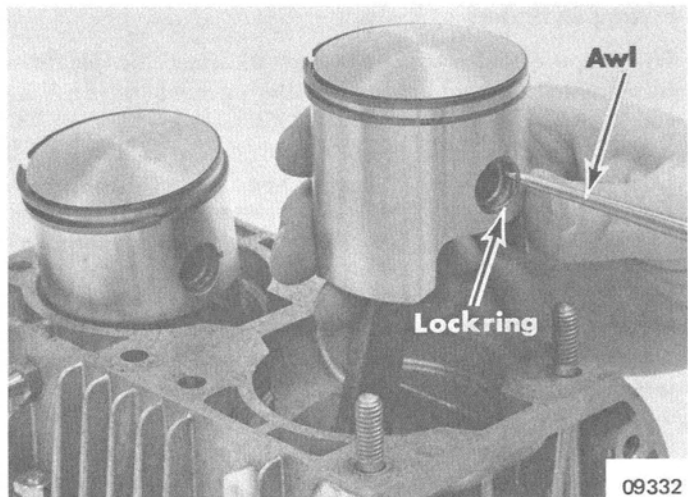

Figure 10. Removing Piston Pin Lockrings
3. Remove piston pin lockrings from pistons with an awl or other suitable tool. (Figure 10) Use caution not to mar piston skirt during removal of lockrings.